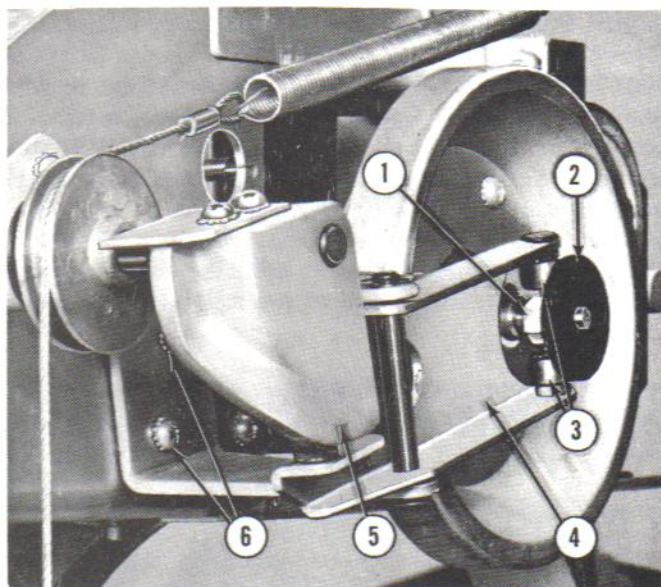
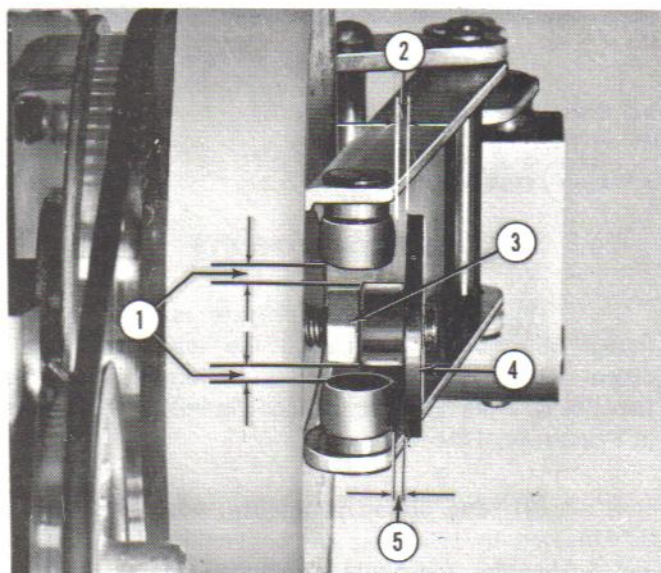
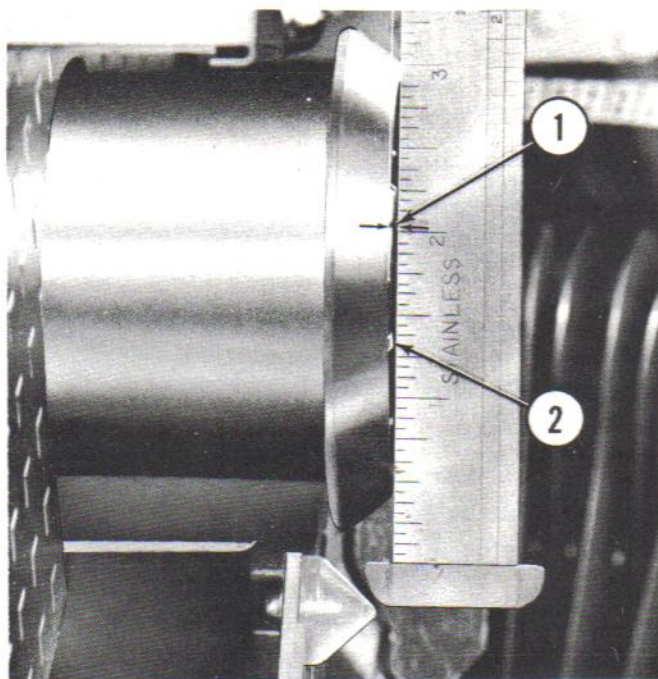

Fig. 62. TURNTABLE ADJUSTMENT
Fig. 63. TURNTABLE ADJUSTMENT
Fig. 64. TURNTABLE ADJUSTMENT
(3) Run the mechanism through several cycles to check for correct mute and play switch action. Observe closely for any forward movement of the record clamp cam (Fig. 62, Item 5) at the time the tone arm trip switch actuates or any return action
(1) The turntable release arm (Fig. 62, Item 4) must be centered about the hub of the record clamp plate (Item 2). Loosening the mounting screws (Item 6) will permit alignment of the rollers as shown in Figure 63, Item 1.
(2) The clamp plate (Fig. 63, Item 4) may be adjusted by releasing any convenient selector pin and letting the mechanism advance in its cycle to play position with a record clamped on the turntable. Turn the power "off." Pull back the clamp plate (Item 4) and loosen the lock nut (Item 3). Release the clamp plate slowly to play position and adjust the plate on the threaded clamp rod to provide 1/32" to 1/16" clearance between the rollers and the clamp plate as
shown at Items 2 and 5 and tighten the lock nut. Manually return the record clamp cam (Fig. 62, Item 5) to its normal rest position and check the clamp plate and rod (Item 2) for additional travel. The clamp rod must not jam in rest position but must return far enough to retract the turntable pilot (Fig. 64, Item 2) $1/32''$ to $1/16''$ inside the turntable housing as shown at Item 1.